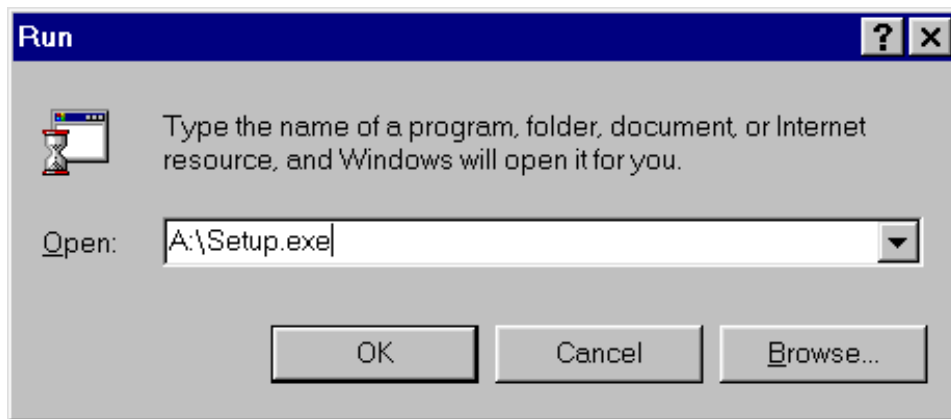

Fig 1-1. Enter the setup.exe path
Step 3: Enter “A:\Setup” (the path dependence on where the Setup.exe located) as Fig 1-1 shown.